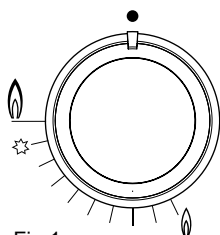

Fig.1
Turn the corresponding knob anticlockwise up to the maximum position (large flame, fig. 1) and press the knob.
If there is no power supply, it is possible to light the burners with matches, setting the knob to the start-up point (large flame, fig.1).
- When the equipment is not working, always check that the knobs are in the closing position (see fig.1).
- If the flame should blow out accidentally, the safety valve will automatically stop the gas supply, after a few seconds. To restore operation, set the knob to the lighting point (large flame, fig. 1) and press.